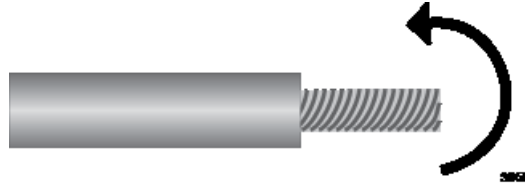

Figure 40. Wrapping the Wire Strands
2. Tightly wrap the wire strands with your finger tips. Refer to Figure 40 on page 101.